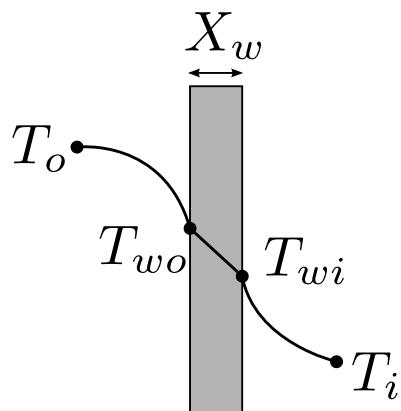

Figure 16: The temperature profile through the pipe wall.
- a) Chilled water flowing through brass tubes of 0.0126 m inside diameter and 0.0018 m thickness cools a stream of air flowing outside of the tube. The film coefficients for the air and water flows are $176 \text{ W m}^{-2} \text{ K}^{-1}$ and $5660 \text{ W m}^{-2} \text{ K}^{-1}$ respectively and thermal conductivity of the brass is $102 \text{ W m}^{-1} \text{ K}^{-1}$ (see Fig. 16).